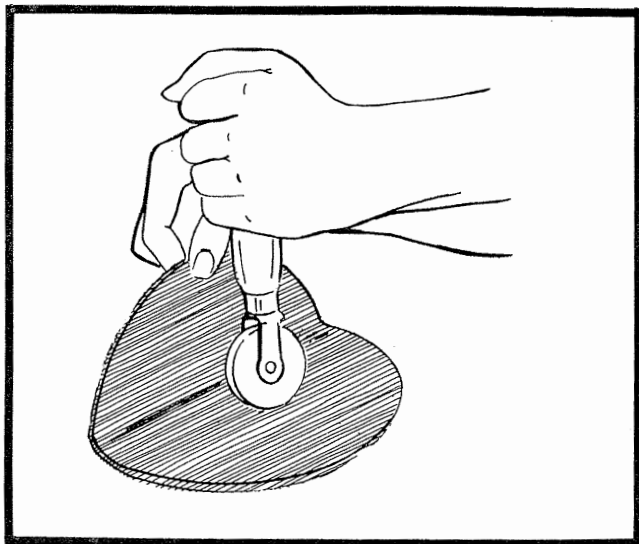

Figure 16-46. Use of Roller Stitcher
10. (See figure 16-46.) Lay repair patch by rolling down on surface from center of edge without trapping air. Hold the unrolled portion of repair patch off the cemented surface until roller contact insures an air-free union. At this time repair patch may be moved by hand on wet surface to improve lap. Do not lift repair patch, slide it.